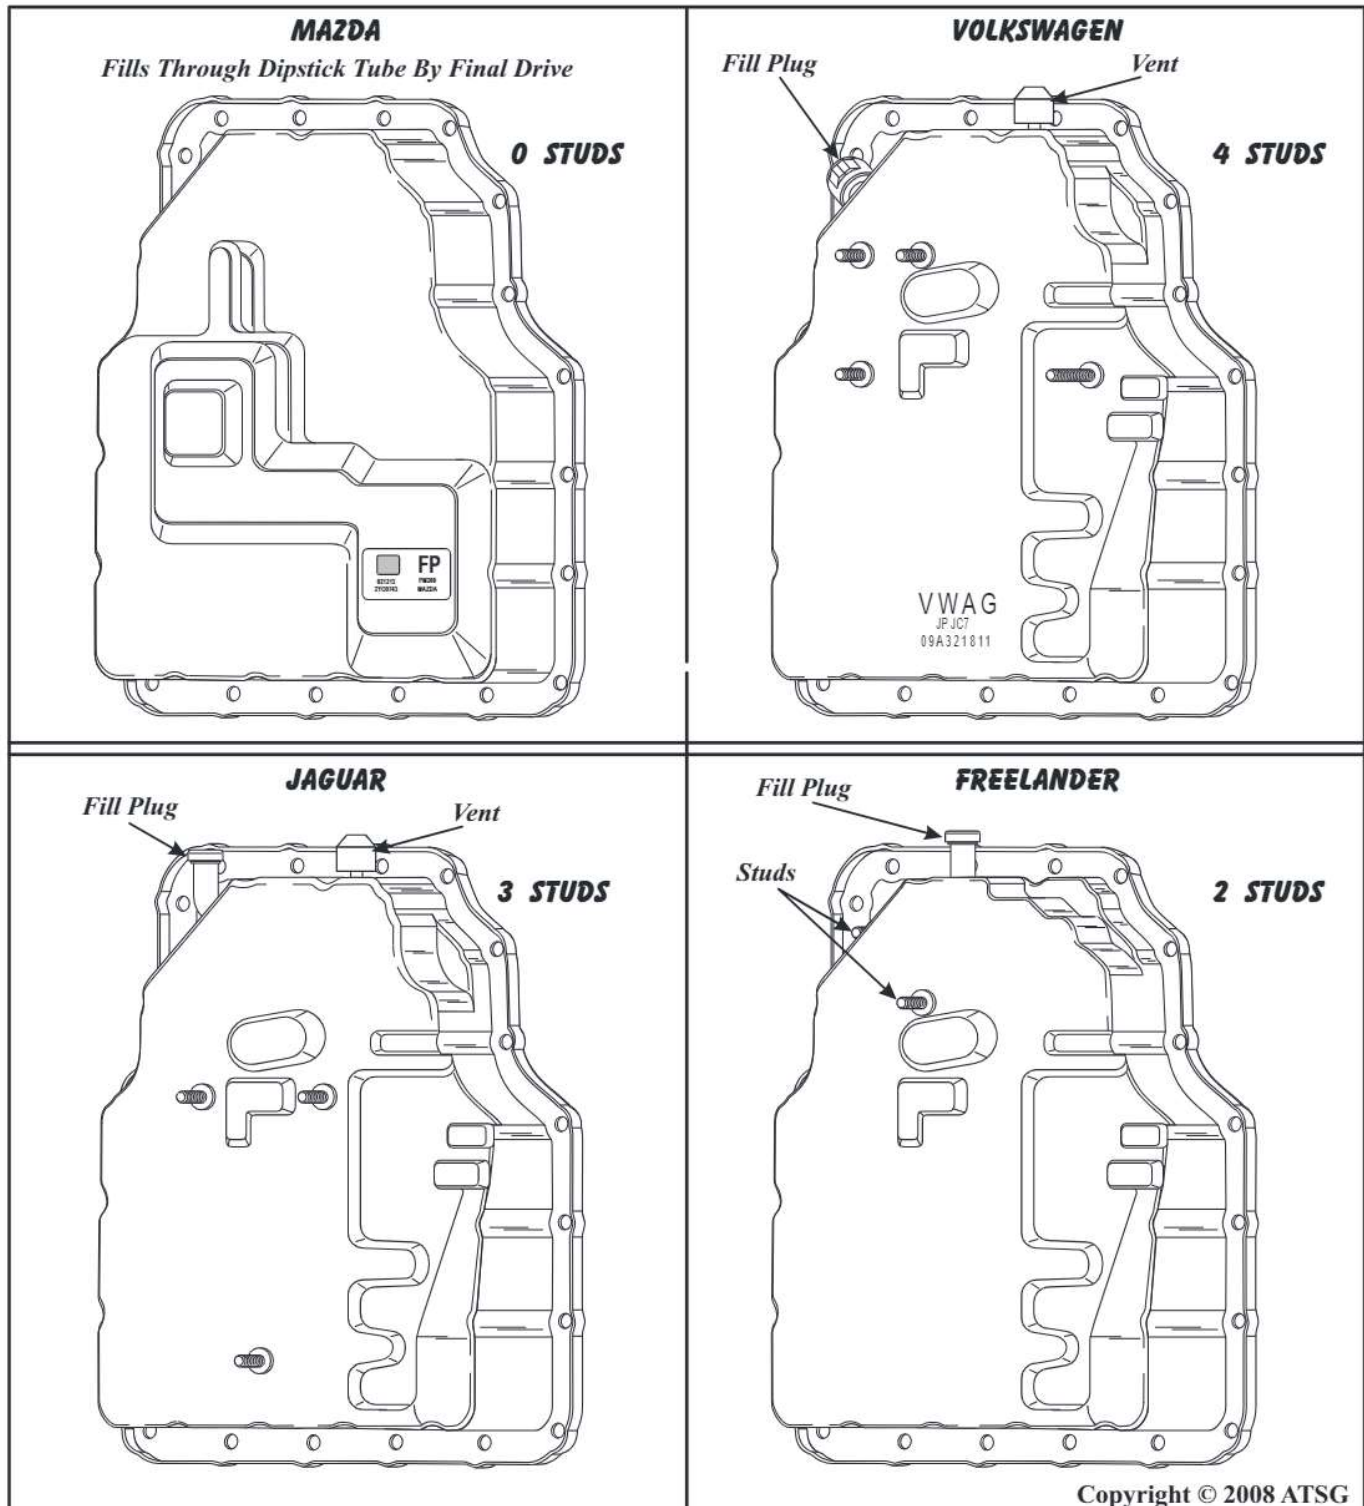

Figure 123
2. Remove the fill plug from the top of side cover, as shown in Figure 123.
Each of the oil pans are also different, as shown in Figure 123. The Volkswagen, Jaguar and Freelander all have studs on the oil pan, in different locations, for various shaped brackets for the individual applications. Notice also that those three have a fill
CORRECTION: Some technicians have said they were able to lift the band back into position through the servo bore. If this cannot be achieved, the transaxle must be removed and disassembled to gain access to the band to place it back into proper position. When filling the unit, remove the fluid check plug from the bottom of the case, as shown in Figure 121 and 122, and fill the unit through the fill pipe located on top of the side of the pan, as shown in Figure 123.